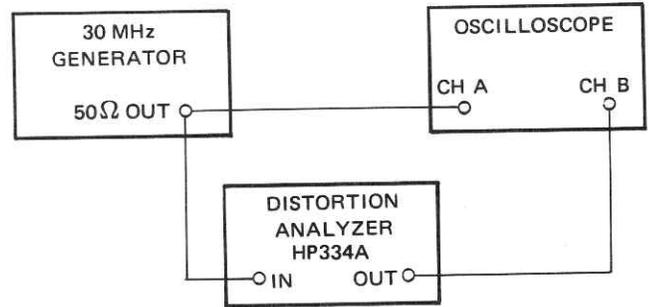

Figure 4-2. Distortion Test Setup
- Set the FREQ (Hz) switch to X 1K, the frequency dial to 1.0 and the WAVEFORM selector to  $\sim$ . Connect the 50 $\Omega$  OUT (HI) to a distortion analyzer loaded with a 50 $\Omega$  terminator. (See Figure 4-2 for test setup.)